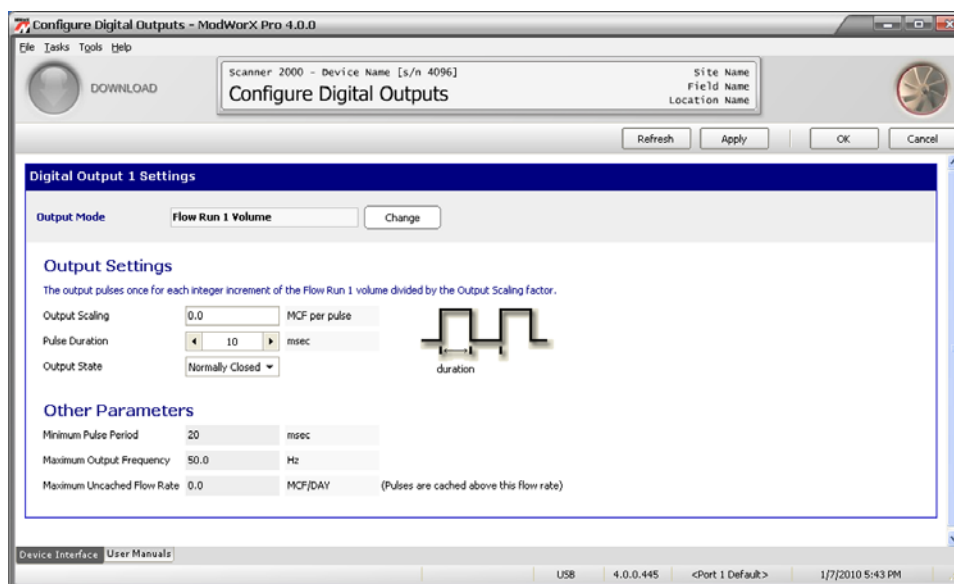

Figure 7.6
2. Click **OK** to save the setting and return to the Configure Digital Outputs screen (Figure 7.6, page 94).